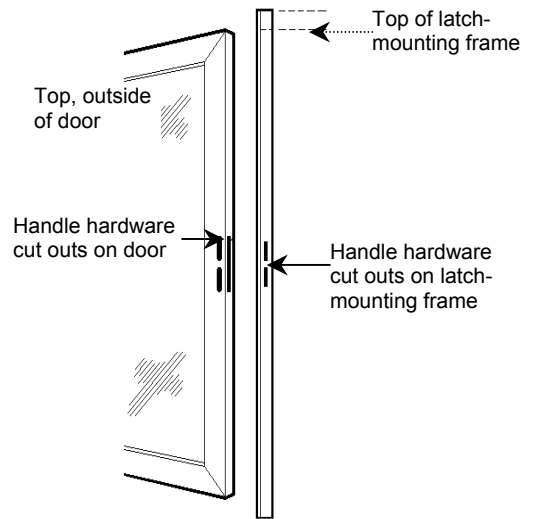

Fig. 1
1. The mortise latch-mounting frame has two rectangles cut out of the side to accept the latch and deadbolt throw of the mortise style handle. See Fig. 1.